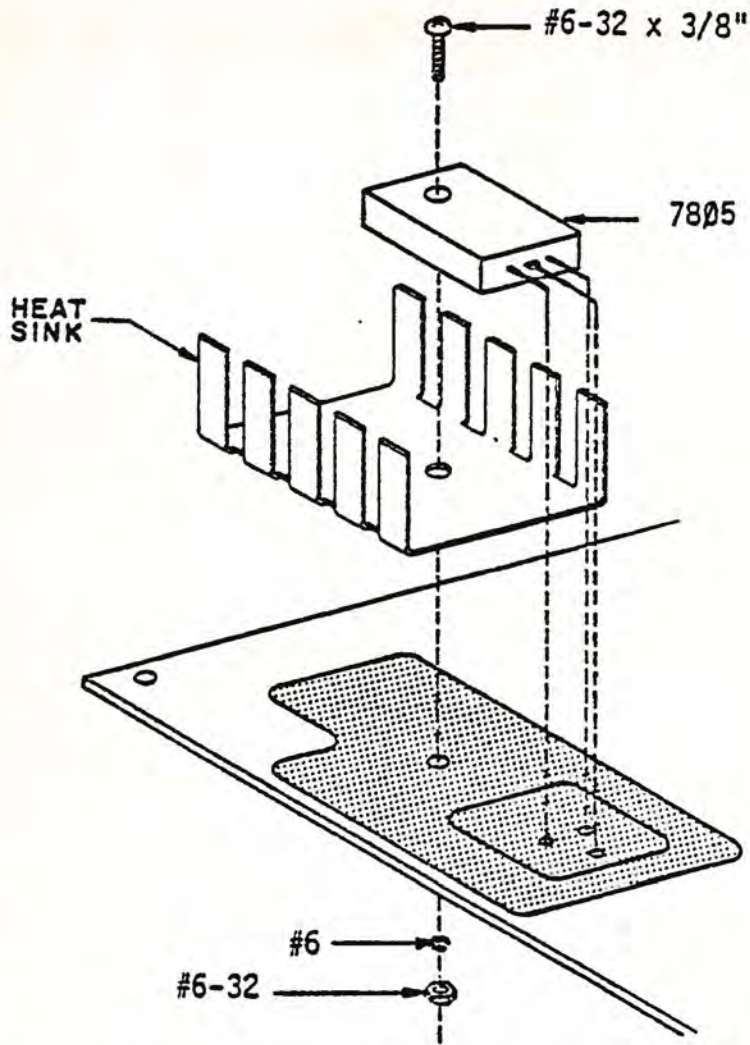

Figure 5-16 Voltage Regulator/Heat Sink Orientation
3. As shown in Figure 5-16, install the regulator on the heat sink and the heat sink on the silk-screened side of the board. Some kits contain a mica insulating strip (not illustrated). Place this insulator between the voltage regulator and heat sink. Secure the entire unit to the board with a screw (#6-32 x 3/8"), nut (#6-32) and lockwasher (#6) included in the kit for this board. If the heat sink included in your kit has 2 screw holes, be sure to orient the voltage regulator over the hole which will result in the entire voltage regulator being located on the heat sink. The voltage regulator should not protrude from the heat sink.